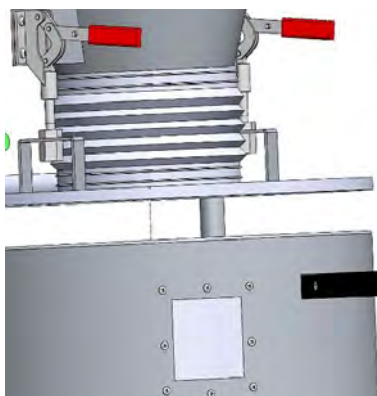

Fig. 24: Clean dust collector
Step 2: Release the quick-release fasteners (Fig. 24) to open the container.